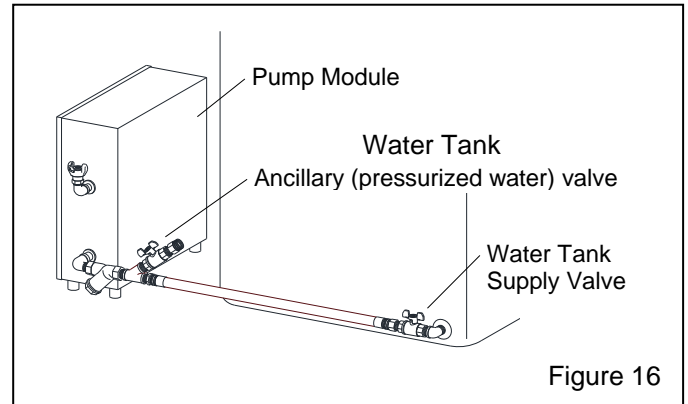

Figure 16
4.1.2.6 Open the ancillary water valve, shown in Figure 16, to purge air from the water line; close the valve as soon as water comes out. Note: All air must be purged from the water supply line for the pump to self-prime.